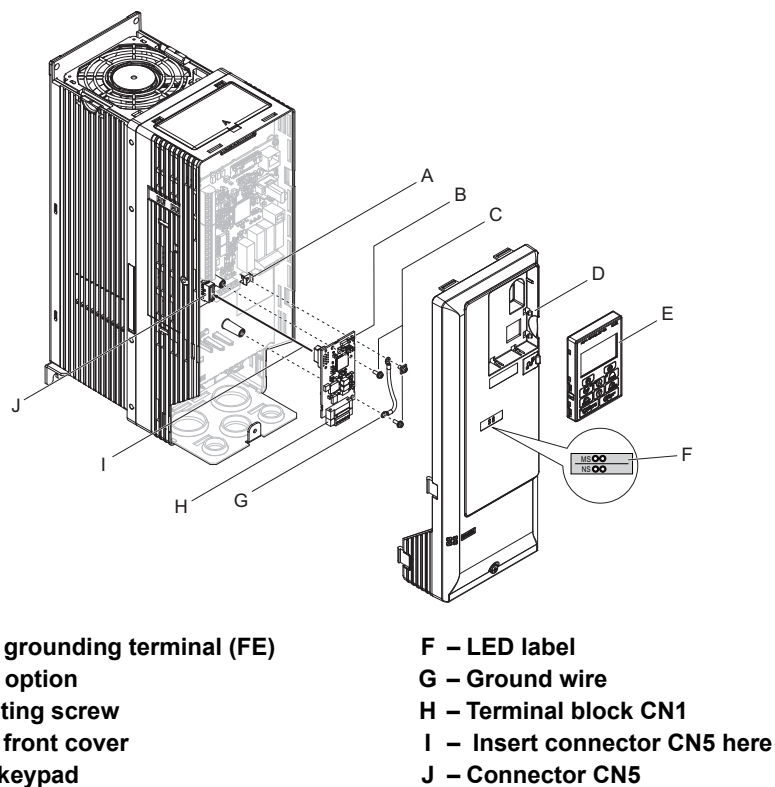

Figure 11 Drive Components with Option
**Figure 11** shows an exploded view of the drive with the option and related components for reference.